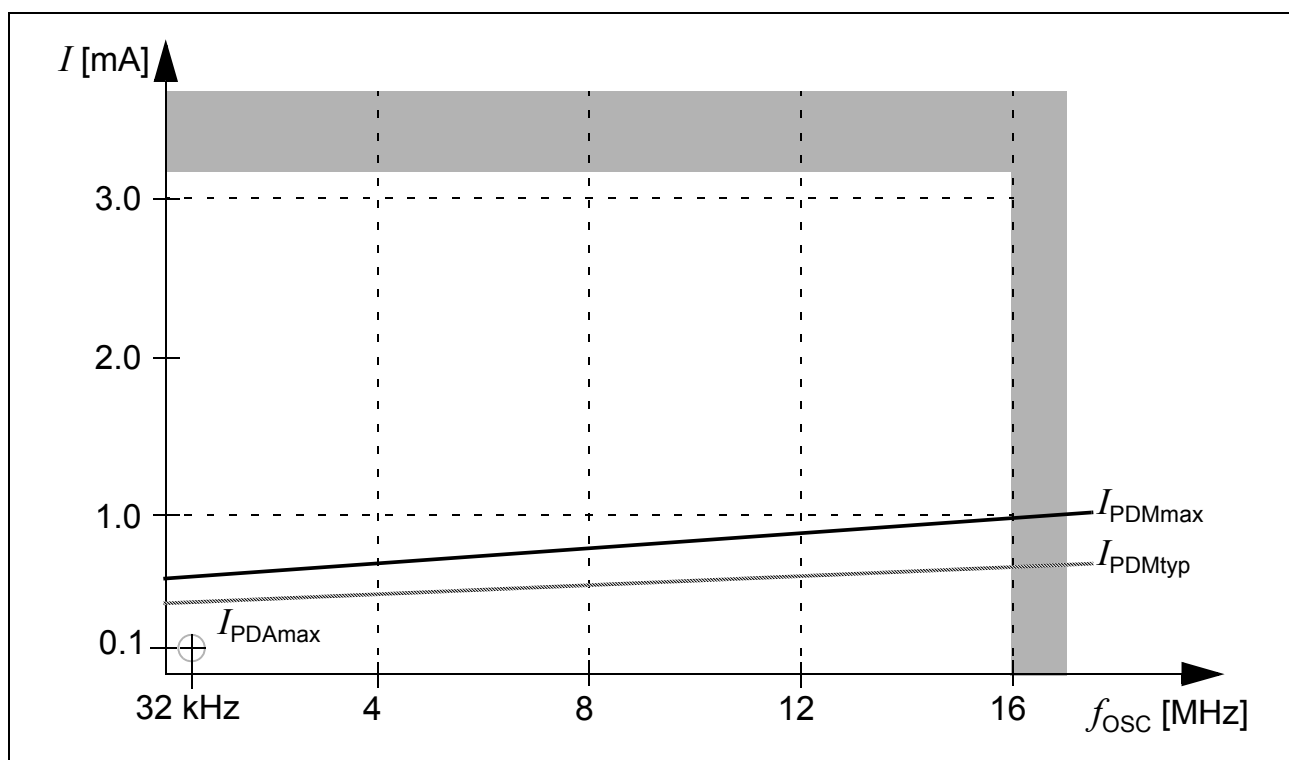

Figure 12 Sleep and Power Down Supply Current due to RTC and Oscillator Running, as a Function of Oscillator Frequency
- 7) This parameter is determined mainly by the current consumed by the oscillator switched to low gain mode (see **Figure 12**). This current, however, is influenced by the external oscillator circuitry (crystal, capacitors). The given values refer to a typical circuitry and may change in case of a not optimized external oscillator circuitry.